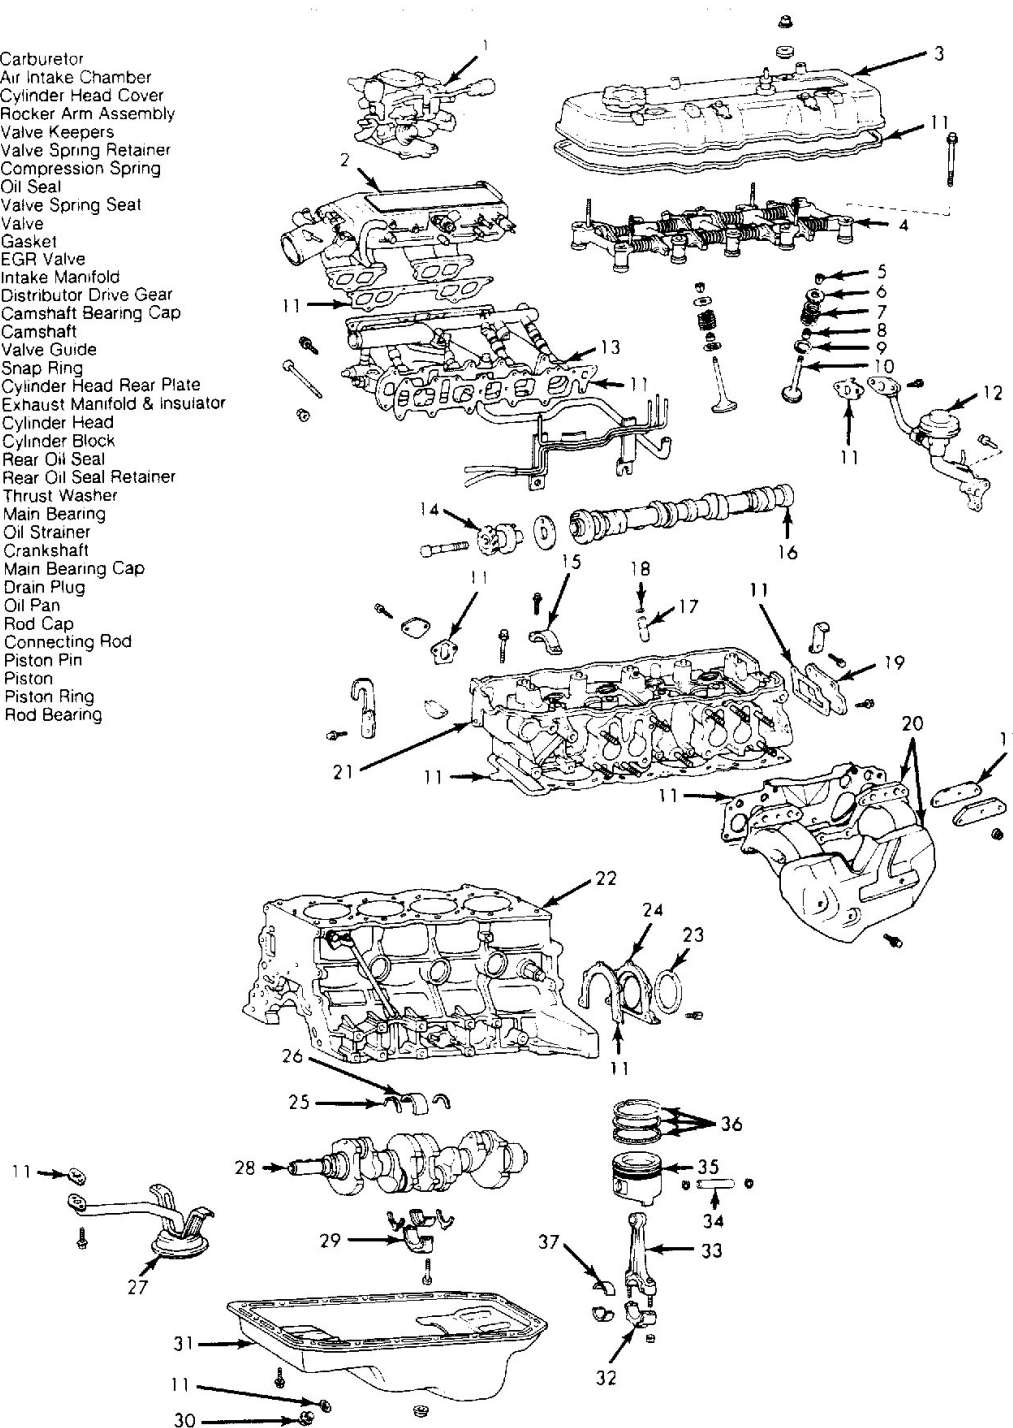

Fig. 2: Exploded View of Cylinder Head & Cylinder Block Components
3. Remove power steering pump and set aside (if equipped). On fuel injected vehicles, remove EGR modulator with bracket and air intake chamber with throttle body. See **Fig. 2**. Disconnect and label all fuel injection wiring and linkages for reassembly reference.